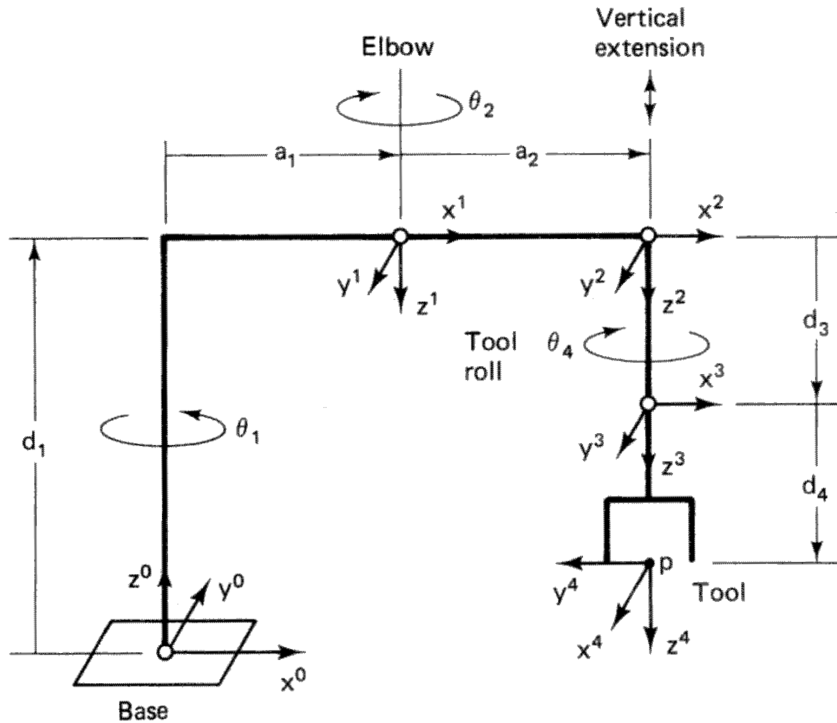

Figure 5: SCARA manipulator (Adept One).
Task 2.5 (7 points) DH-Parameter SCARA: An important type of manipulator is the SCARA type, a manipulator with four vertically aligned joint axes. Figure 5 shows the joint coordinate frames of such a manipulator (Adept One).
2.5.1 (2 points): Verify the manipulator shown in Figure 5 according to the Denavit-Hartenberg convention.